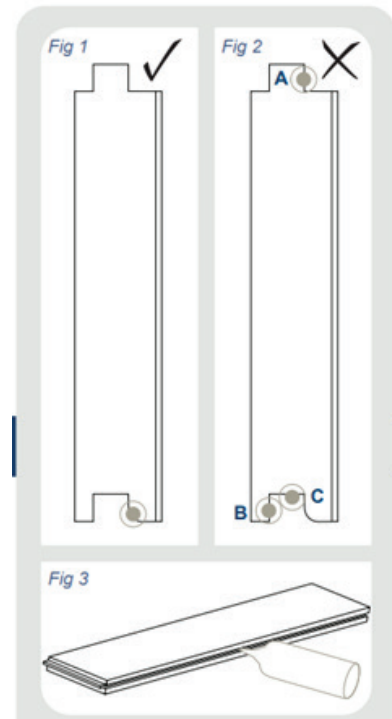

Figure 1
Correct Glue Placement: (Figure 1) Use only the approved adhesive (cross linked PVA Adhesive) Do not use ordinary PVA. This is the correct place to apply the adhesive glue to gain a strong, tight & secure bond between the tongue & groove
50. Begin your installation against a sound, straight wall, starting in the left corner and working right. It may be necessary to scribe the first row of boards to achieve correct alignment. Always begin the installation with the groove side of the plank facing the wall. (Figure 1)